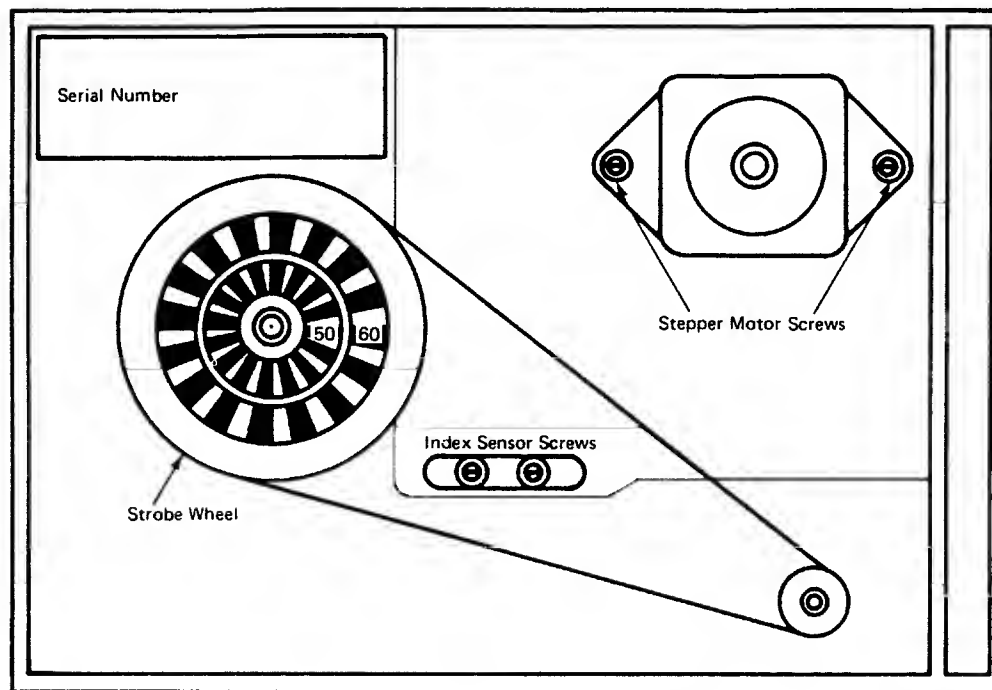

FIGURE 6-16. MPI DISK DRIVE
- 6.4.2.9 Turn the drive unit so strobe wheel faces Technician. The strobe wheel has a black and white pattern as shown in Figure 6-16. The following adjustment must be made under fluorescent lighting. With 50 cycle lighting, use the inner strobe wheel pattern.
- 6.4.3.7 With the drive on its side and strobe wheel facing Technician, loosen both stepper motor mounting screws on the underside of the drive. (See Figure 6-16.)
- 6.4.4.8 Loosen two index sensor mounting screws located in the slot on the underside of the Disk Drive. (See Figure 6-16.)